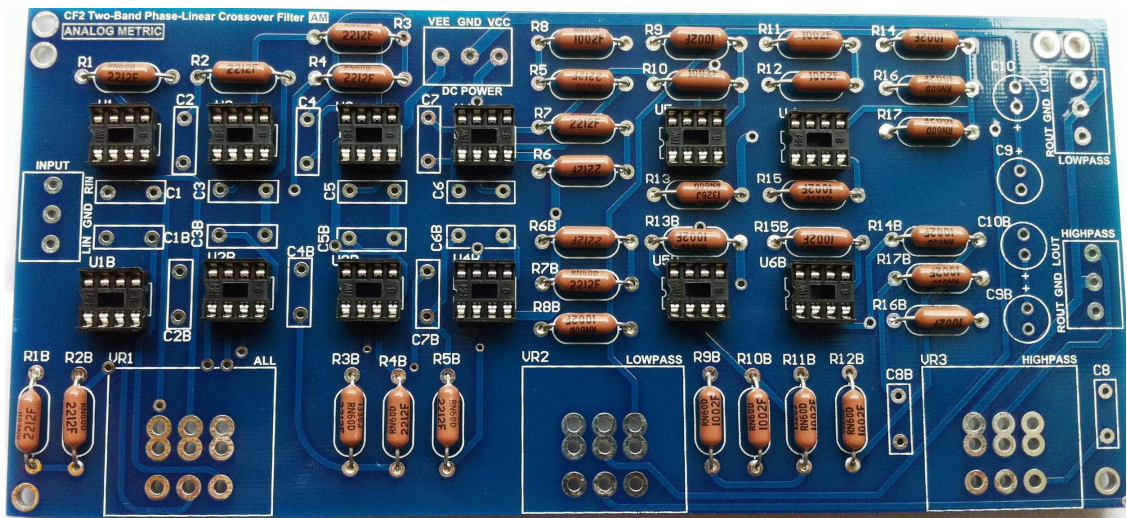

Figure 1: Soldering resistors and IC sockets.
3. For easy of soldering, the suggested soldering sequence is as following: all resistors, DIP8 IC sockets (Figure 1), capacitors (Figure 2), connectors, and POTs.